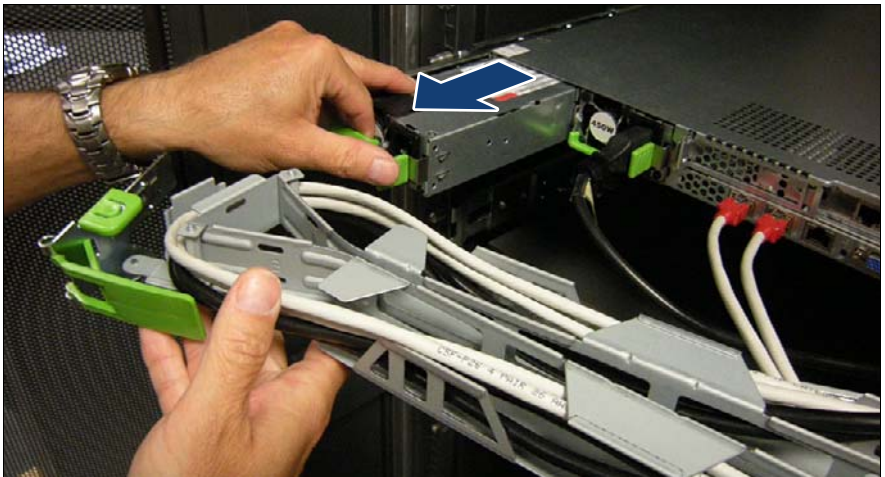

Figure 33: Removing the power supply unit
- ▶ Remove the power supply unit (see figure 33) and install the new power supply unit carefully.